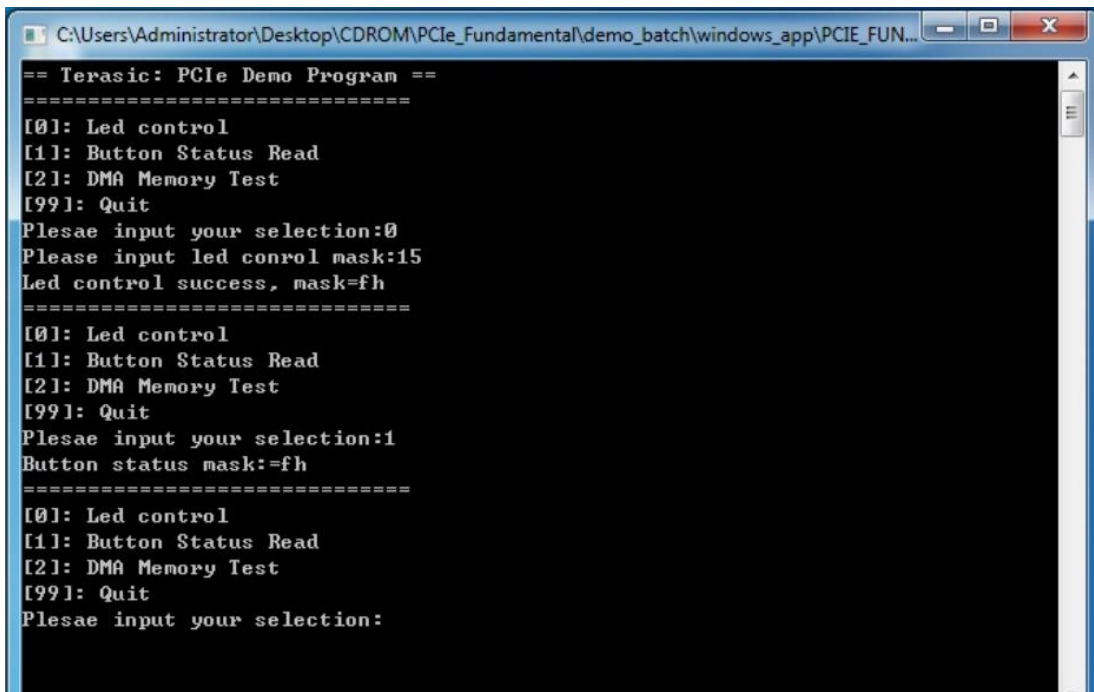

Figure 7-13 Screenshot of Button Status Report
9. Type 1 followed by an ENTER key to select Button Status Read item. The button status will be report as shown in **Figure 7-13**.